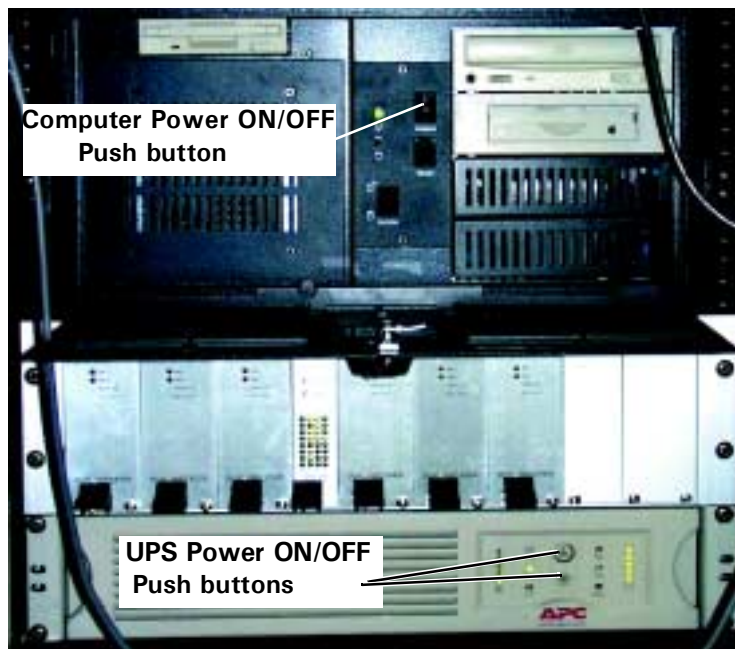

Figure 4-1
2. Open the front door to gain access to the **Uninterruptible Power Source (UPS)** and **Computer**. See Figure 4-1.
6. Turn **Off** the UPS with the round **Push button**. See Figure 4-1.